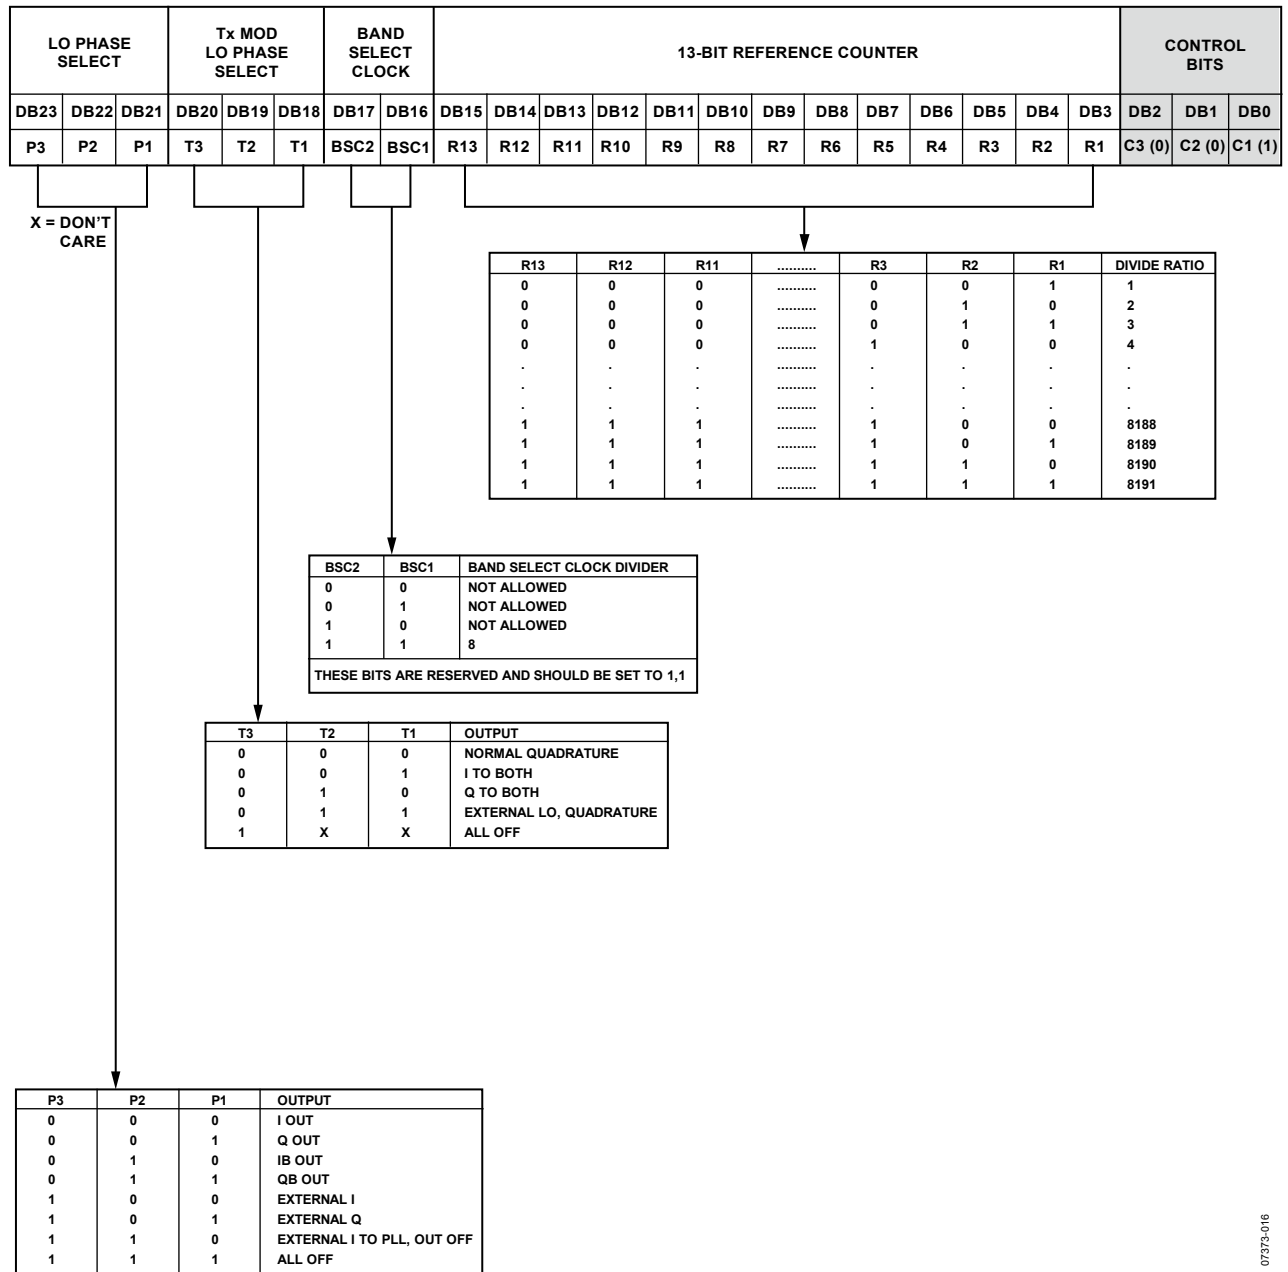

Figure 23. Tx Latch
With (C3, C2, C1) = (0, 0, 1), the Tx latch is programmed. Figure 23 shows the input data format for programming the Tx latch.
Bit P3, Bit P2, and Bit P1 set the phase of the LO output to the demodulator. This enables the user to select the phase delay of the Rx LO signal to the demodulator in 90° steps. See the truth table in Figure 23. The Rx LO output can be disabled if desired.
Bit T3, Bit T2, and Bit T1 set the input modulation of the VCO. Normal quadrature to each mixer can be replaced by choosing one LO phase to both mixers if desired. The normal (I) or quadrature (Q) phase can be chosen. See the truth table in Figure 23.